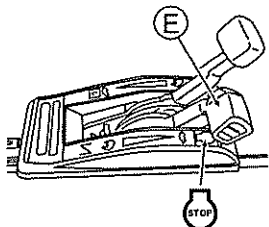

Fig. 20.
6 To interrupt mowing work halfway or finish it, return Drive clutch lever (B) and Blade lever (C), and then set Throttle lever (E) to "STOP" to stop the engine. (See Fig. 20.)